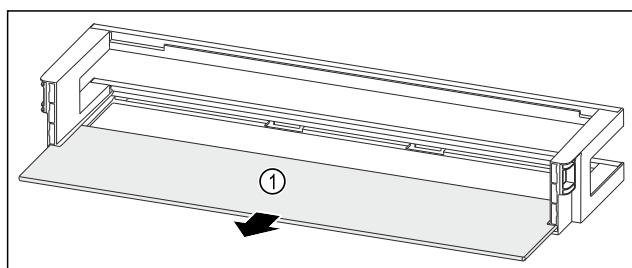

Fig. 123 Door rack with shelf
- ▶ Remove the shelf Fig. 123 (1).